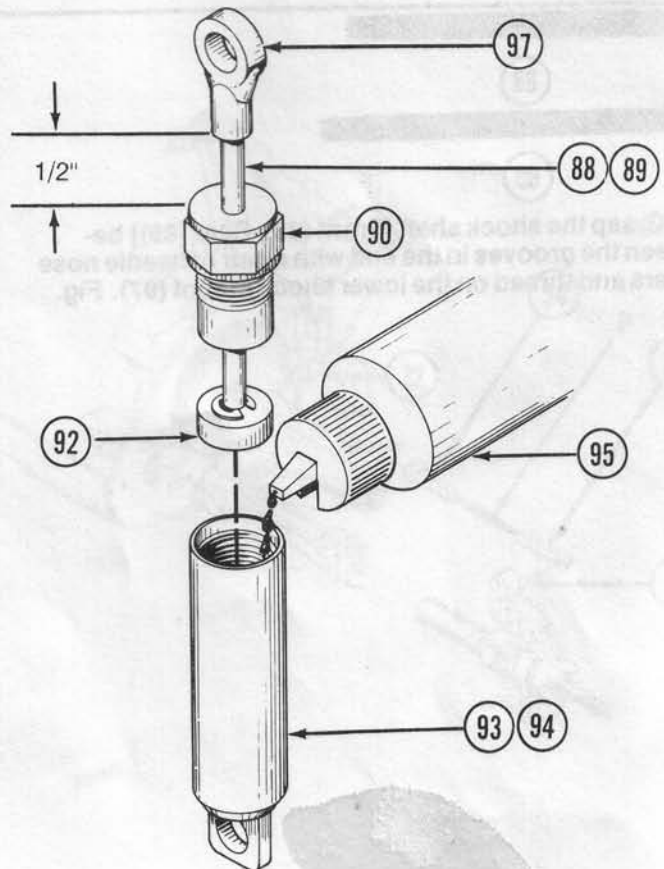

FIG. 41
6. Clean out shock body [Front (93), Rear (94)] with a clean, soft, lint free cloth. Fig. 41.
7. Fill the shock body (93) (94) with shock oil (95) up to the bottom of the threads. Fig. 41.
8. Slide the cartridge (90) along the shaft (88) (89) so there is a 1/2" gap between the hex-end of the cartridge (90) and the top of the lower shock mount (97). Fig. 41.
9. Screw cartridge (90) into shock body in this position (93) (94) until o-ring (91) is completely in, being careful not to pinch it into threads. Fig. 41.
10. Check to see that the piston (92) travel is full. If it stops prematurely, crack open the shock by turning the cartridge (90) a quarter turn to the left. Slowly force the shock shaft (88) (89) down to its full travel. While the shock is under compression, retighten the cartridge (90). Fig. 41.
11. Assure freedom of movement of piston (92). Fig. 41.